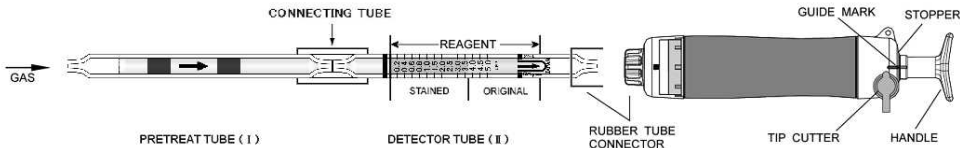

Fig.1
- ① Break both ends of the pretreat tube ( I ) and detector tube ( II ), and connect each end of the pretreat tube and detector tube with connecting tube as shown in Fig.1.
- ② Insert the detector tube into the aspirating pump securely as shown in Fig.1. (Arrow mark shall point to the pump.)
- ③ Align the guide marks on the shaft and stopper of the aspirating pump.
- ④ Pull the pump handle at a full stroke until it locks and wait for 2 minutes or until the completion of sampling is confirmed with the flow indicator of the pump. (See descriptions about the flow indicator in the instruction manual of the pump.)
- ⑤ Push back the handle without removing the detector tube from the rubber tube connector so that air in the pump will be discharged perfectly. Then repeat the step ③~④ once more.
- ⑥ On completion of sampling, read the scale at the maximum point of the stained layer.